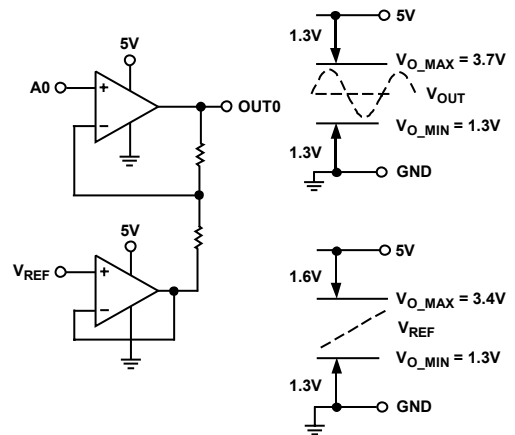

Figure 47. Output Compliance of Main Amplifier Channel and Ground Buffer
- On the AD8189,  $V_{REF}$  cannot be tied to the most negative analog supply,  $V_{EE}$ . The limits on reference voltage are (see Figure 47):